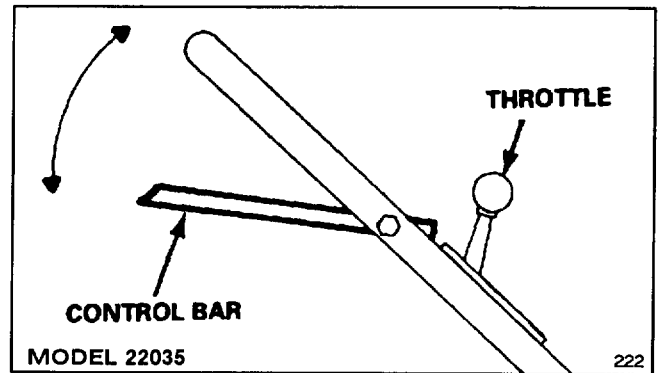
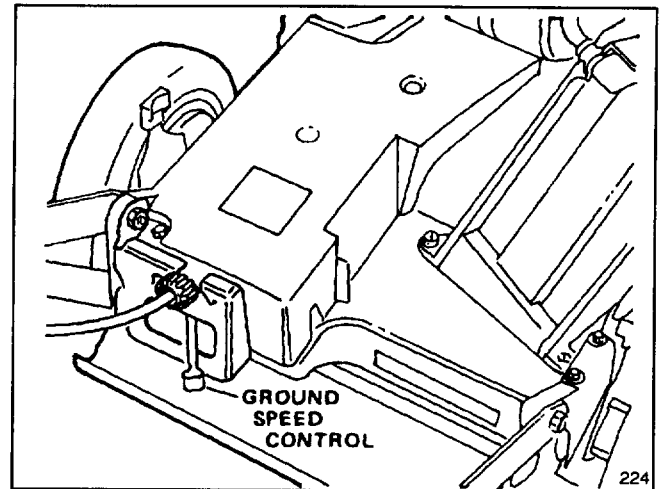

Figure 10
Figure 11
4. **STARTING (Model 22035)**—Move ground speed control to desired speed selection (Fig. 11) and throttle to CHOKE. Pull fingertip starter and regulate throttle as desired when engine starts (Fig. 10).